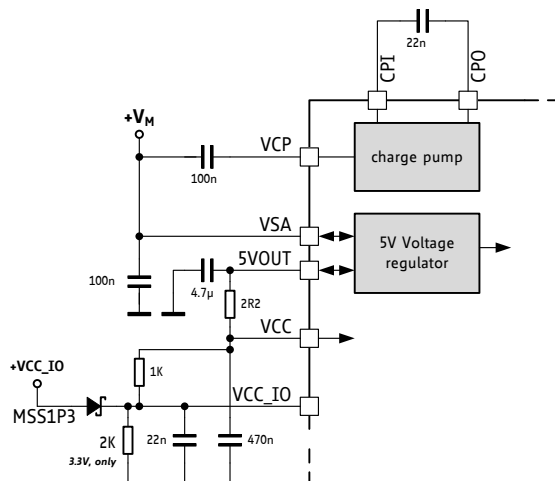

Figure 3.2 External supply of VCC_IO (showing optional filtering for VCC)
- VCC_IO can be supplied externally as shown in Figure 3.2 . In this case it is mandatory to connect the Schottky diode to the logic supply of the external circuitry. Please note, that the 2K resistor is not to be used with 5V I/O voltage.